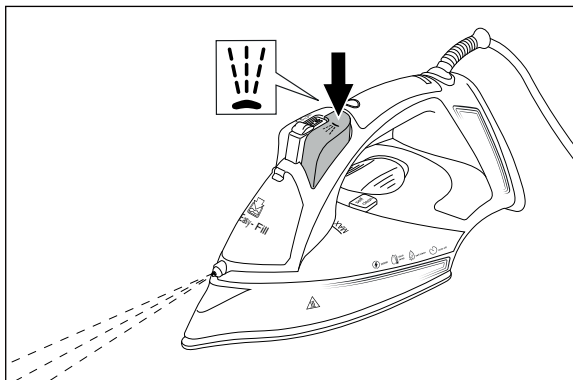

Fig. 8
- 3) Press the button for the spray function  ⑤ (see Fig. 8).